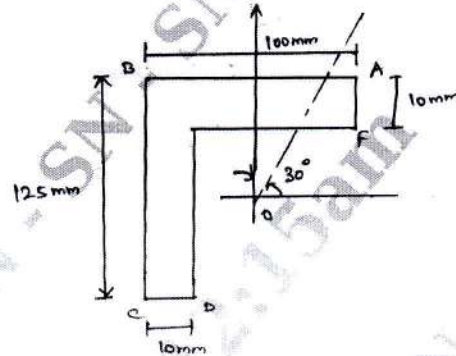

Fig. Q1 (b)
- Fig. Q1 (b) shows the section of an angle purlin. A bending moment of 3000 Nm is applied to the purlin in a plane at an angle of  $30^\circ$  to the vertical y axis. If the same of the bending moment is such that both its components  $M_x$  and  $M_y$  produces tension in the positive xy quadrant. Calculate the maximum direct stress in the purlin, stating clearly the point at which it acts.